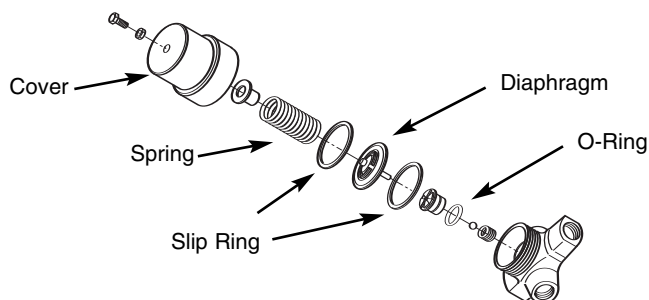

Figure 2-6 Inlet Regulator Rebuild
To install the Air and Oxygen Inlet Regulators Rebuild Kits, refer to Figure 2-6 and do the following:
- 1 Unscrew the brass cover from the regulator (no tool should be needed) and remove the spring, diaphragm, diaphragm washer, seat with O-ring, small spring, and ball (see Figure 2-6).